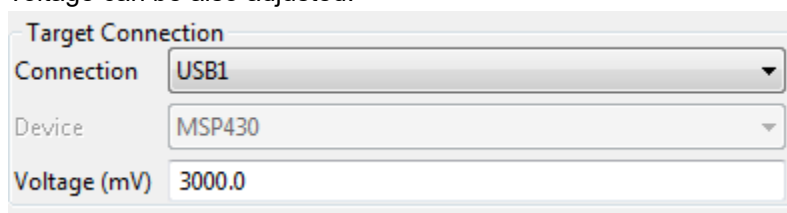

**Figure 4-9. Target Connection**
- **Target Connection** (see Figure 4-9): The menu is used to select which debug probe is used for EnergyTrace measurement. The voltage can be also adjusted.